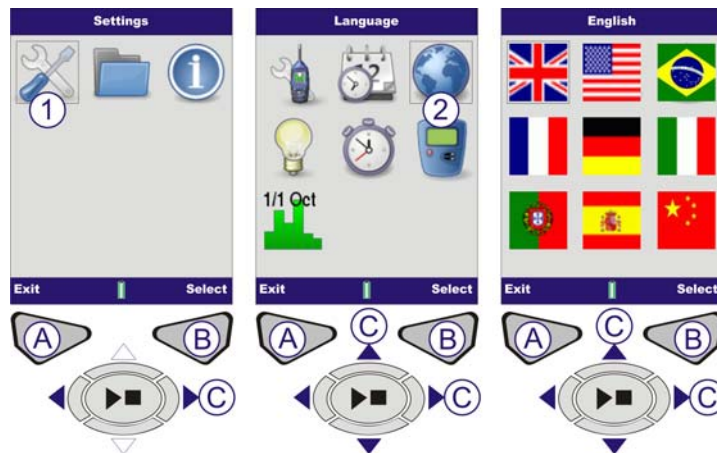

Figure 6 Set Language
D. SET LANGUAGE (Refer to Figure 6)